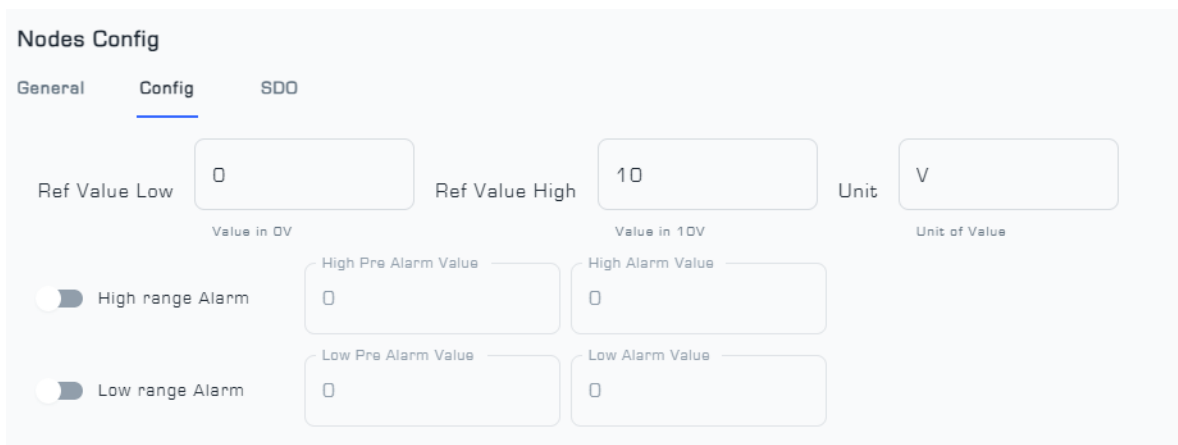

Figure 6: Config Menu from Node Setting page
■ In the Config menu of the wireless single-channel Alternative Node, as shown in Figure 6, the alarm settings of the Node can be configured. The High Alarm Value and High Pre-Alarm Value are related to setting the alarm and pre-alarm for the maximum danger value for the Node, and the Low Alarm Value and Low Pre-Alarm Value are related to setting the alarm and pre-alarm for the minimum danger value for the Node.